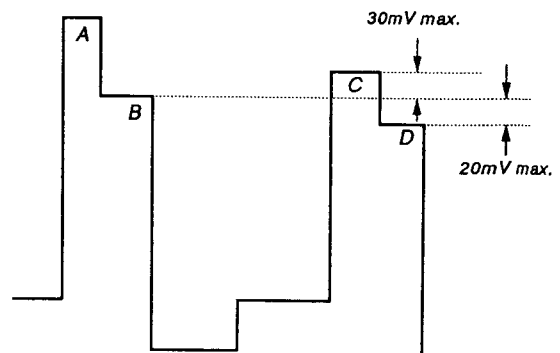

Fig. 10
5. Using **R-Y LEVEL COMPONENT** , adjust so that the tops of the waveform line up as in the diagram below. (Fig. 10)